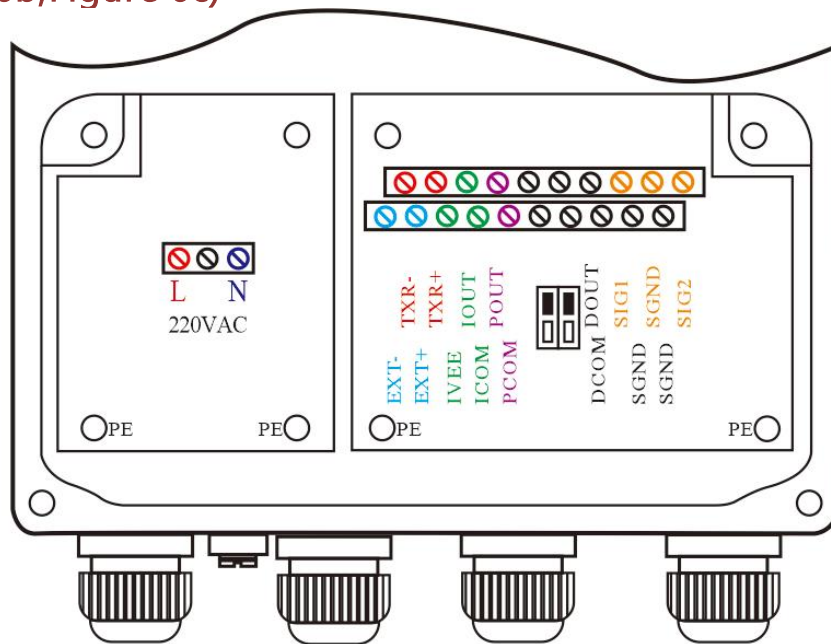
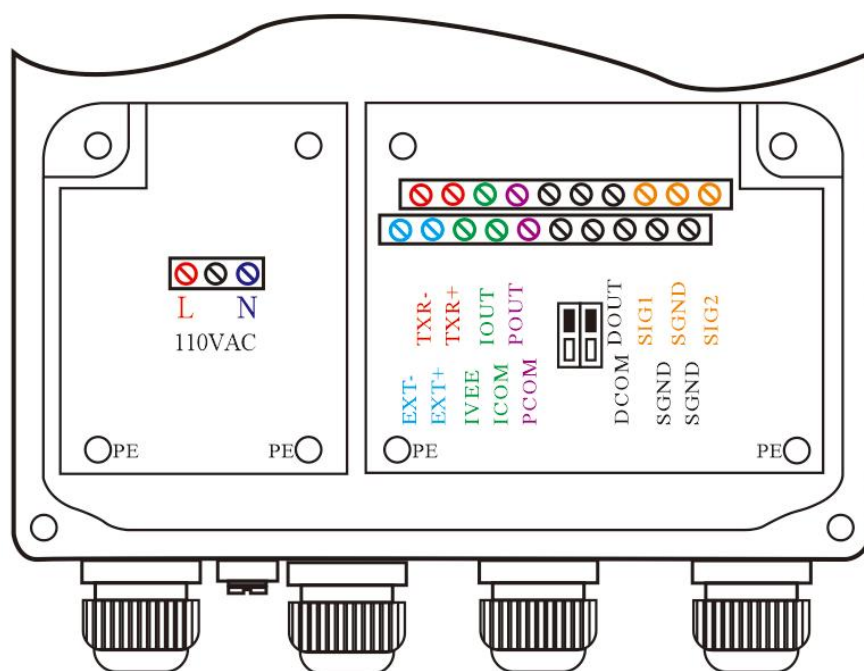
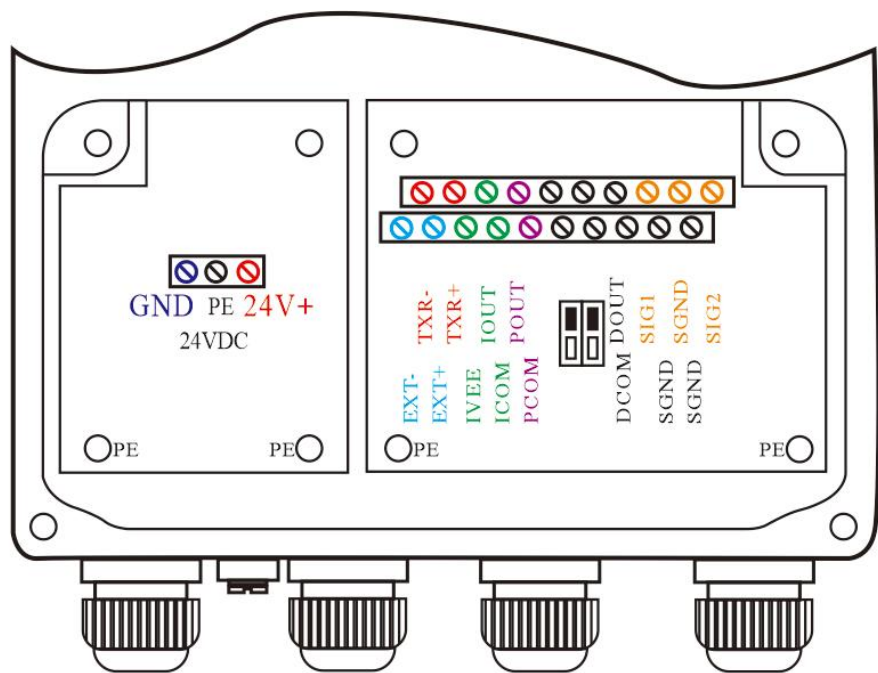
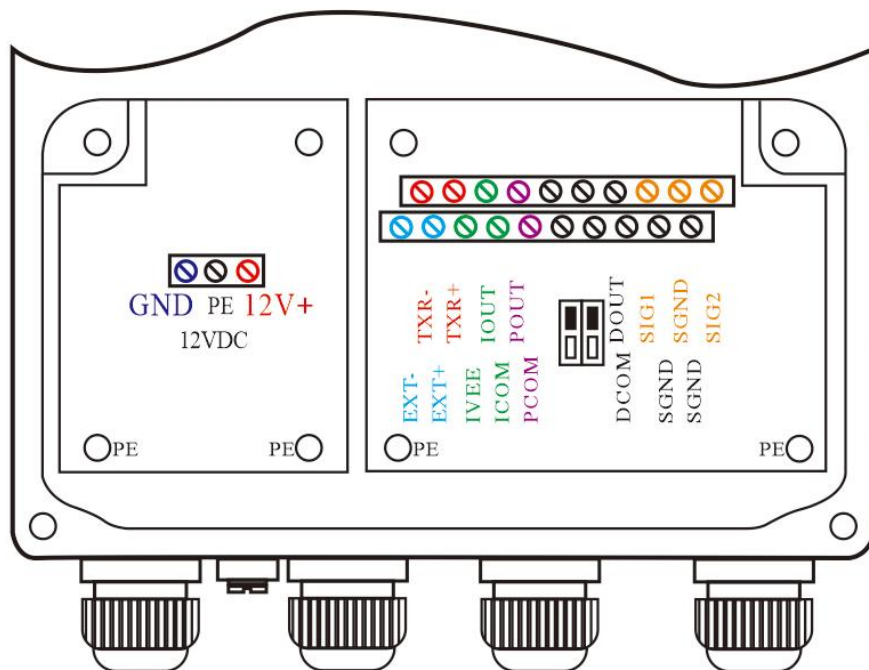

Figure 6: Square meter (220V) terminal block diagram
Figure 6a: Square meter (110V) terminal block diagram
Figure 6b: Square meter (24V) terminal block diagram
Figure 6c: Square meter (12V) terminal block diagram
7.2 Split converter wiring diagram and signal definition(Figure 6, Figure 6a,Figure 6b,Figure 6c)